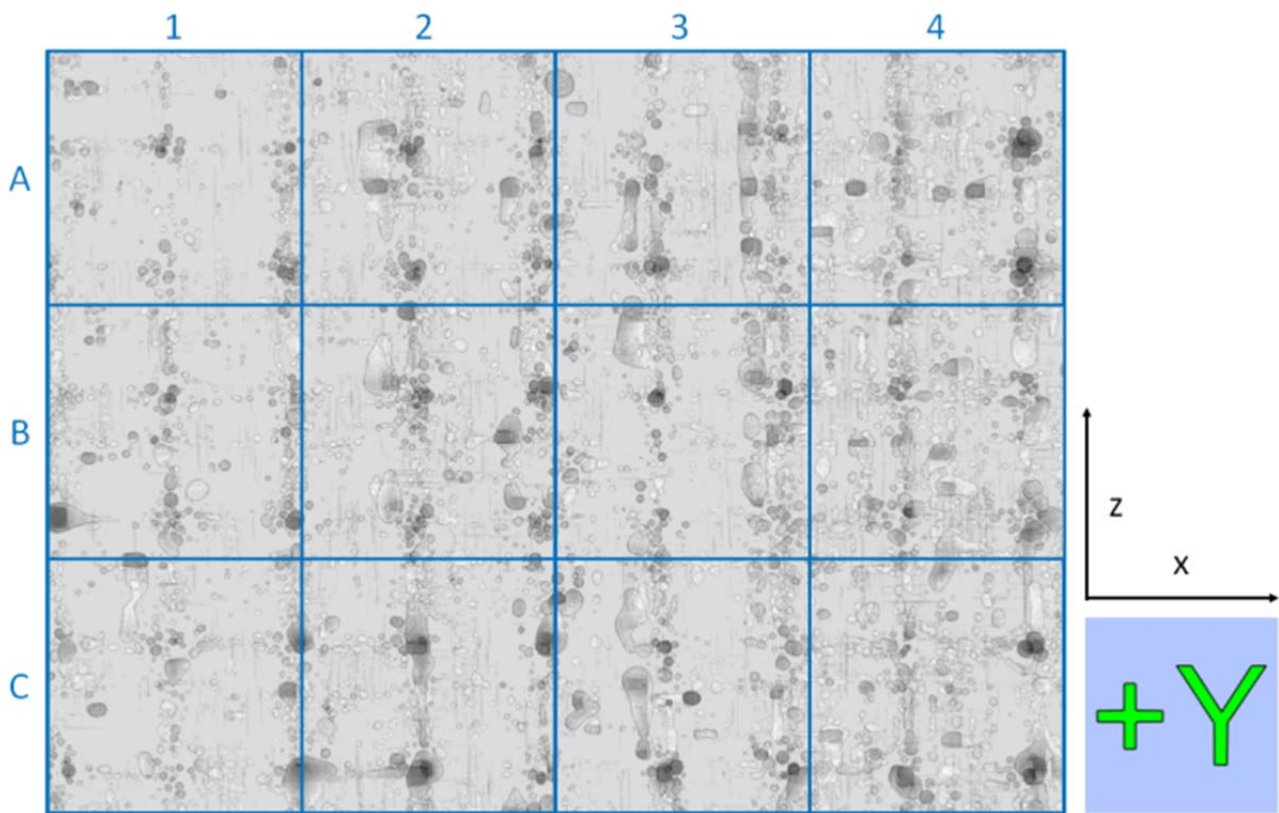
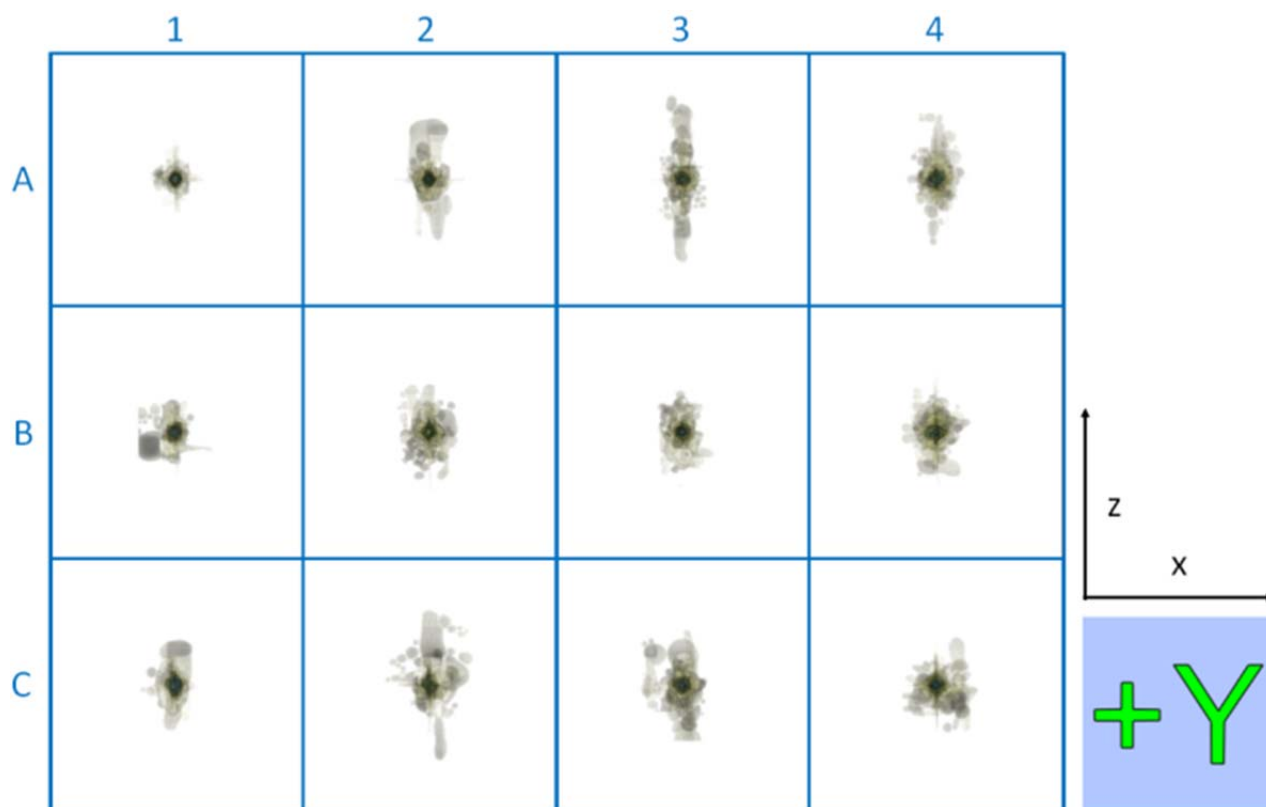

Figure 2: Visualization of segmented pores in a CFRP dataset.
Figure 3: Local MObjects visualization of the CFRP dataset from Figure 2.
For a fast homogeneity overview of the specimen we divide the dataset in regular sub-volumes. We now refer to them as cells. Figure 2 shows the partitioning of a CFRP dataset with segmented pores in cells.
For each cell a local MObject is calculated. In this calculation an individual pore belongs to the cell, in which the center of the pore is located. Figure 3 shows the local MObjects visualization using the segmented pores dataset from Figure 2.
- Q 4.16 Which MObject in Figure 3 represents the lowest average pore volume in the dataset? _____
- Q 4.17 Which MObject in Figure 3 represents the highest average pore volume in the dataset? _____
- Q 4.18 Which MObject in Figure 3 represents the lowest average pore shape factor in the dataset? _____
- Q 4.19 Which MObject in Figure 3 represents the highest average pore shape factor in the dataset? _____
- Q 4.20 Which MObject in Figure 3 represents the lowest average pore dimension in x direction in the dataset? _____
- Q 4.21 Which MObject in Figure 3 represents the highest average pore dimension in x direction in the dataset? _____
- Q 4.22 Which MObject in Figure 3 represents the lowest average pore dimension in z direction in the dataset? _____
- Q 4.23 Which MObject in Figure 3 represents the highest average pore dimension in z direction in the dataset? _____
- Q 4.24 Which MObject in Figure 3 has the lowest pore volume homogeneity in its cell? _____
- Q 4.25 Which MObject in Figure 3 has the highest pore volume homogeneity in its cell? _____
- Q 4.26 Which MObject in Figure 3 has the lowest pore shape factor homogeneity in its cell? _____
- Q 4.27 Which MObject in Figure 3 has the highest pore shape factor homogeneity in its cell? _____
- Q 4.28 Which MObject in Figure 3 has the lowest homogeneity regarding the pore dimension in x direction in its cell? _____
- Q 4.29 Which MObject in Figure 3 has the highest homogeneity regarding the pore dimension in x direction in its cell? _____
- Q 4.30 Which MObject in Figure 3 has the lowest homogeneity regarding the pore dimension in z direction in its cell? _____
- Q 4.31 Which MObject in Figure 3 has the highest homogeneity regarding the pore dimension in z direction in its cell? _____